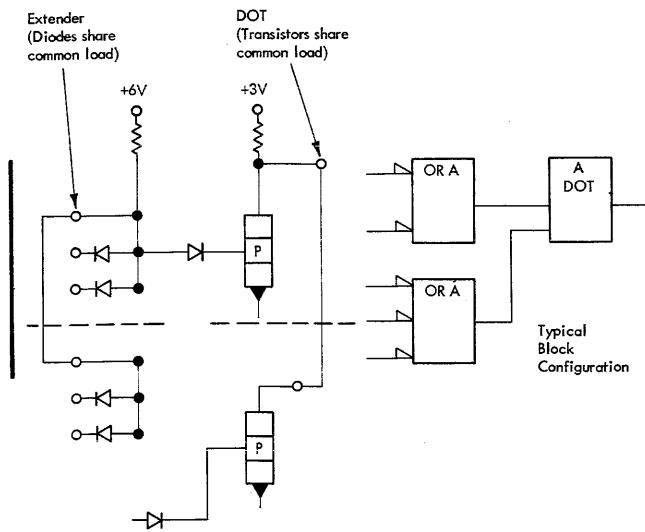

Figure 1-9. Extender and DOT Functions
AND circuits and OR circuits can be connected to produce a single output (Figure 1-9). In diode logic an extender (E) connects one logic block to another. The extender, in effect, is a method of adding diodes to the input of a circuit. The symbol E is seen in ALD's when the connection is between two cards. In transistor logic, the outputs of logic blocks are connected by a DOT block. Generally the AND DOT is a positive AND; the OR DOT is a negative OR.